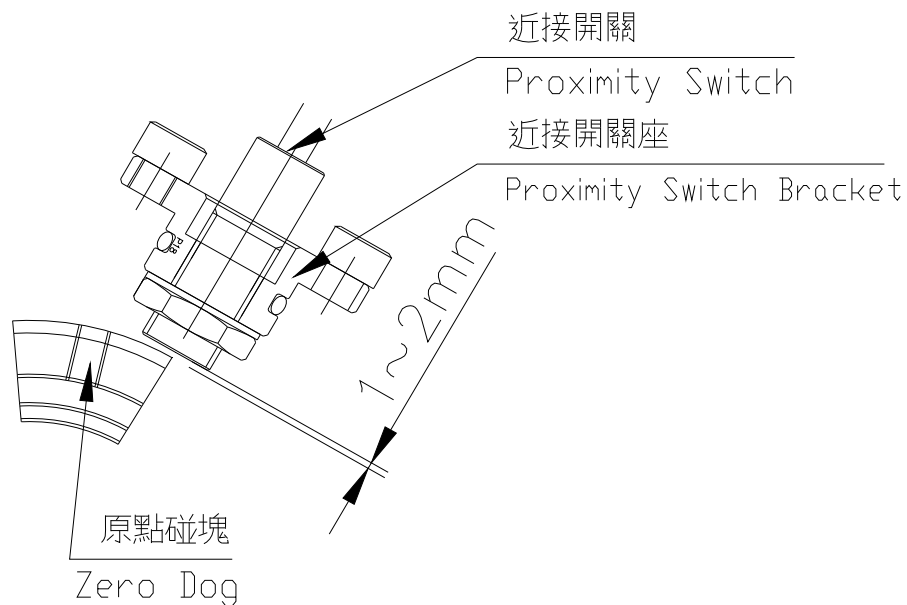

Fig 8-1
- Excessive distance between proximity switch and Zero Dog (remove proximity switch bracket, loosen nut and adjust the distance of proximity switch); the optimal distance shall be 1.0~2.0 mm. ( *see Fig 8-1* )